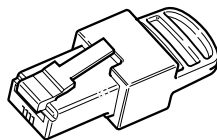

Figure 5 Xanbus Network Terminators
- Network terminators (Figure 5)—the Xanbus network must be properly terminated at each end with network terminators. If the network is not properly terminated, signal quality is degraded and performance on the network is reduced. Permanent configuration without terminators is not supported by Xantrex Technology USA Inc. One terminator is included with the SCP. Depending on your network layout, this terminator may need to be inserted into another device elsewhere in the network.